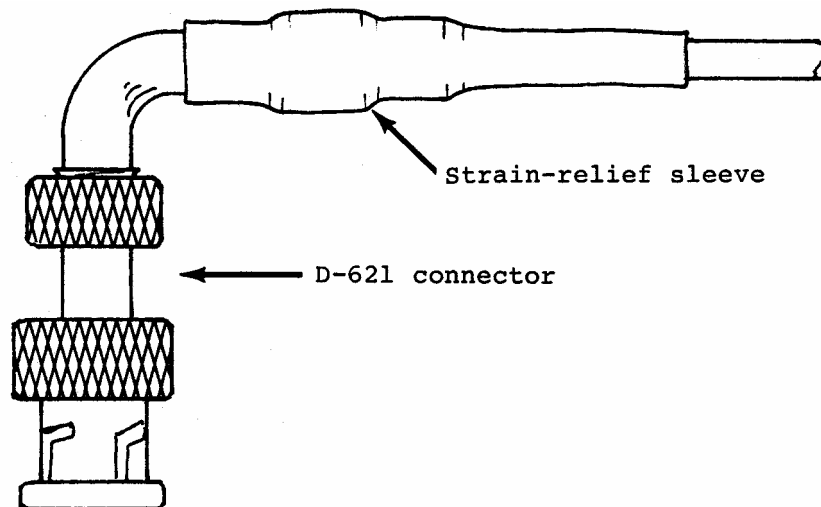

Figure 8-7. Position Of Strain Relief Sleeve
9. Slide the strain relief sleeve over the braid terminator and position it against the D-621 connector as shown in Figure 8-7.